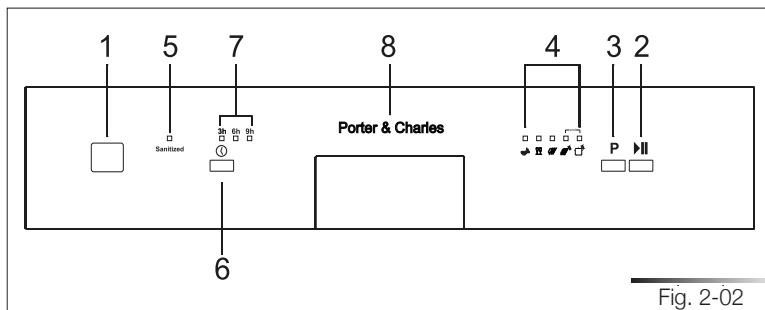
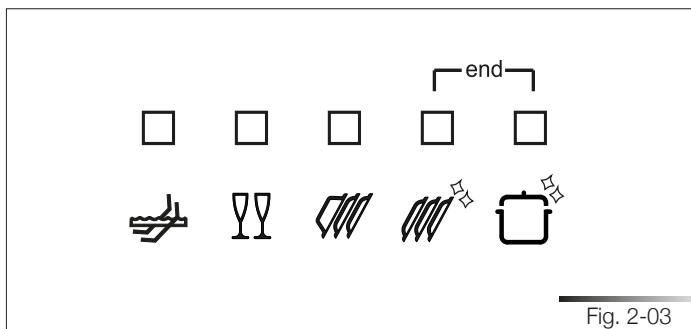

Fig. 2-02
Fig. 2-03
The dishwasher is equipped with a control panel (see fig. 2-02) which is used to program the appliance and switch it on and off.
Press **on/off** (ref. 1 fig. 2-02) to start the dishwasher; the indicator lights show the “status” of the dishwasher.
*Programming operations can only be performed with the **door closed**. With the door open, the **program** indicator lights (ref. 4 fig. 2-02) remain off.*
- Press the program **selection button** (ref. 3 fig. 2-02) several times until the indicator light corresponding to the required program turns on (ref. 4 fig. 2-02);
- to start the dishwasher, press the **start/pause** button (ref. 2 fig. 2-02) for a few seconds until the indicator light of the selected program starts flashing (confirmation beep);
*If you open the door while the appliance is working, you must close it and start the program again by pressing **start/pause** (ref. 2 fig. 2-02). The program will resume from where it was interrupted.*
- press the **start/pause** button (ref. 2 fig. 2-02); the indicator light of the current program remains on (confirmation beep); at this point, start the cycle by pressing **start/pause** (ref. 2 fig. 2-02), or change or cancel the program.
To cancel the program press **start/pause** (ref. 2 fig. 2-02) until it stops (indicator light on and beep). Press **start/pause** (ref. 2 fig. 2-02) once again and hold it down until the indicator lights of programs four and five (ref. pr. 4, pr. 5 fig. 2-03, marked “end”) light up.
Select the delay by pressing the program delay button (ref. 6 fig. 2-02) in sequence, depending on the delay you wish to set; the corresponding indicator light will shine (ref. 7 fig. 2-02).
The dishwasher will perform a pre-wash cycle, after which the preset “**program delay**” will commence (the indicator light (ref. 7 fig. 2-02) corresponding to the time remaining before the program starts and the indicator light (ref. 4 fig. 2-02) indicating the set program, **start flashing**).
- press the **start/pause** button (ref. 2 fig. 2-02) for a few seconds until the **program delay** indicator light (ref. 6 fig. 2-02) and the set program indicator light (ref. 4 fig. 2-02) stop flashing and remain lit; press the **delay program** button (ref. 6 fig. 2-02) to modify or cancel the set delay (indicator lights 3, 5, 8 fig. 2-02 off);
- press the **start/pause** button (ref. 2 fig. 2-02) to start the program. If a delay is set, the **program delay** indicator light (ref. 7 fig. 2-02) and the set program indicator light (ref. 4 fig. 2-02) begin flashing; if the program delay is cancelled, only the program indicator light (ref. 4 fig. 2-02) flashes to show that it has started.
- press **start/pause** (ref. 2 fig. 2-02) and hold it down for a few seconds until the indicator lights of programs four and five (ref. pr. 4, pr. 5 fig. 2-03, marked "end") light up;
- press the **start/pause** button (ref. 2 fig. 2-02) to start the program.
- press the **start/pause** button (ref. 2 fig. 2-02) to start the program. The dishwasher will drain and continue with the required delay and the new program.
At the end of the program, the dishwasher emits a short beep and **the indicator lights of the fourth and fifth program** (ref. pr. 4, pr. 5 fig. 2-04) flash. Press the **on/off** button (ref. 1 fig. 2-02) to switch off the dishwasher.